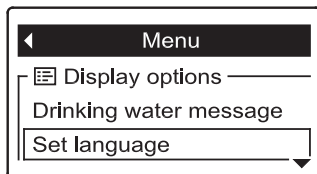

FIG. 107
2. Press the DOWN (▼) button to scroll through the menu options until **Set language** is highlighted in a box (See Figure 107). Press the SELECT (○) button.
6. Press the SELECT (○) button. The display will go back to the menu shown in Figure 107, in the newly set language.